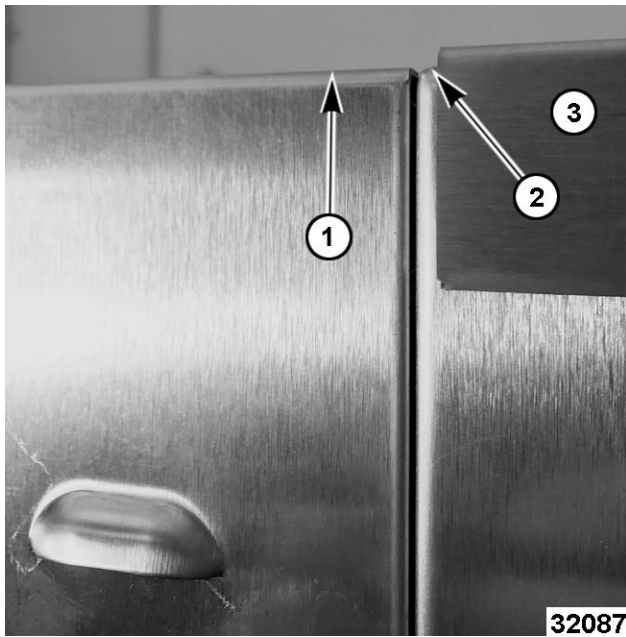

Fig. 114
3. Adjust the control panel (1, Fig. 114) until it is flush with the frame (2, Fig. 114) of the oven along the top (Fig. 113) and side. Not with the top trim (3, Fig. 114).